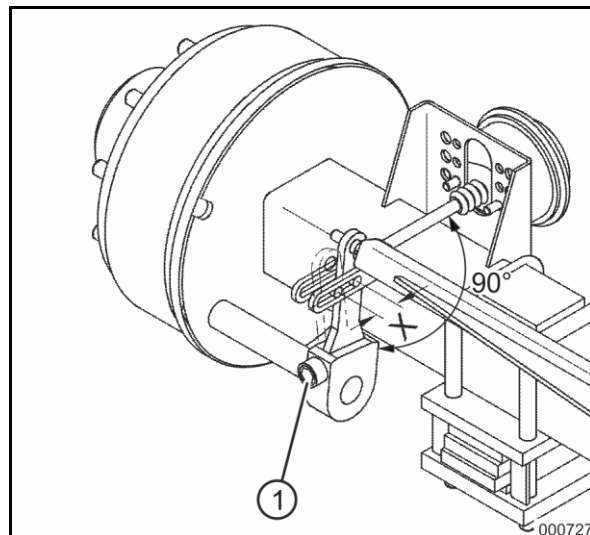

Fig. 153
The braking power is transferred 100% if the brake cylinder and the brake lever are positioned in an angle von 90° to one another when the brake is actuated (see Fig. 153). If the angle is less than 90° with the brake actuated, the braking power is reduced.
2. Have the wheel brake readjusted if the angle between the cylinder push rod and the slack adjuster is less than 90° (see Fig. 153).